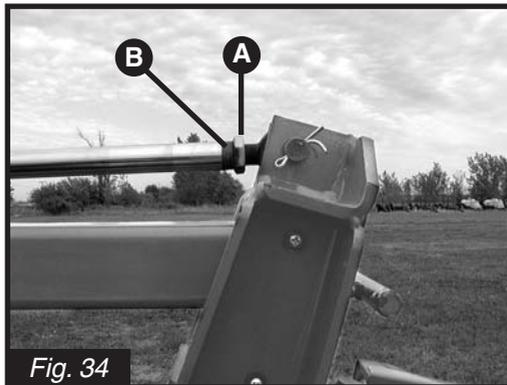

Fig. 34
2. Loosen jam nut (**A**)(Fig. 34).
3. Apply an adjustable wrench to the machined surface at (**B**)(Fig. 34).
5. Secure jam nut (**A**)(Fig. 34).